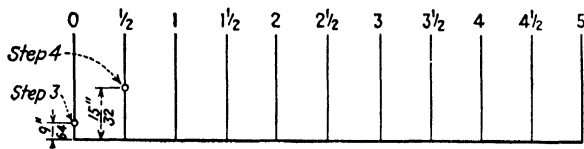

Fig. 177.
Step 3.—At station 0, the data shows that the upper camber is $\frac{9}{64}$ in. above the datum line. Mark this point as shown in Fig. 177.